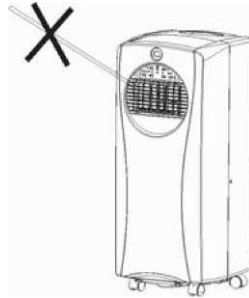

FIG.2
- Do not place any objects on the unit or block the air inlet / outlet (fig. 2).